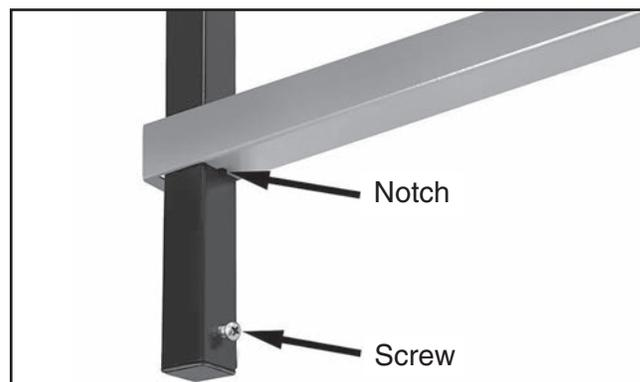

Figure 2. Horizontal bar sliding into place.
1. Locate small mounting hole ½-inch from bottom of vertical bar (see **Figure 2**).
2. Thread (1) M5-.8 x 16 Phillips head screw fully into hole, and slide a horizontal bar (with notch-side-down) down vertical bar until it rests on screw (see **Figure 2**).